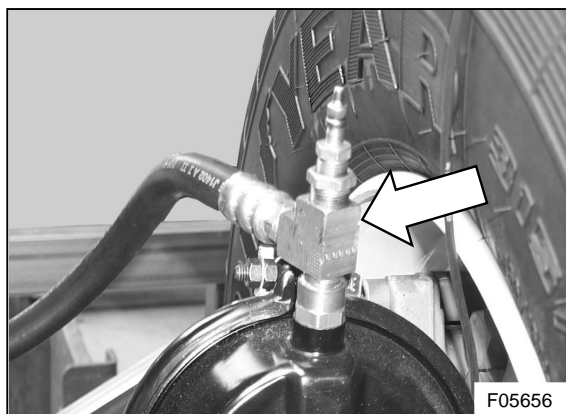

Figure 18: Hose to brake chamber connection
- 4) Undo the hose at the brake chamber tee connector (see Figure 18) with one wrench while holding the tee body steady with a second wrench.